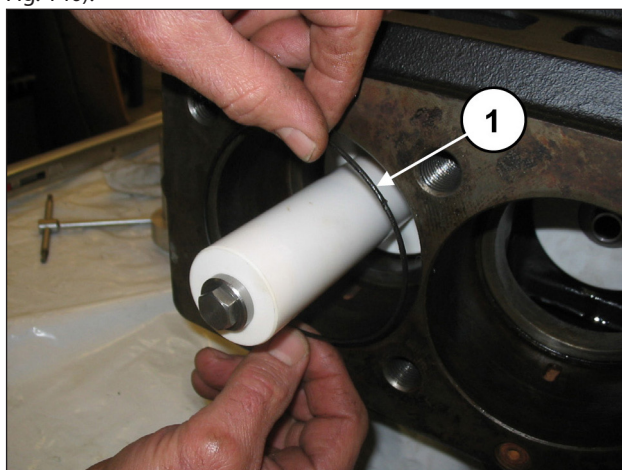
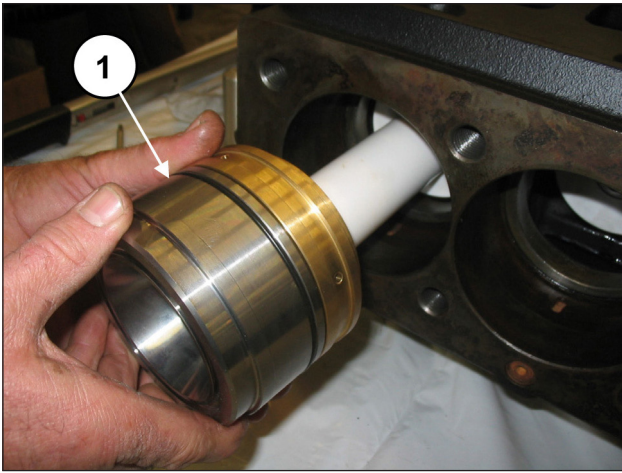

Fig. 139
Fig. 140
Insert the O-ring inside the pump casing (pos. ①, Fig. 139) and then the previously-assembled liner-seal support block (complete with the same O-ring) to end stroke (pos. ①, Fig. 140).